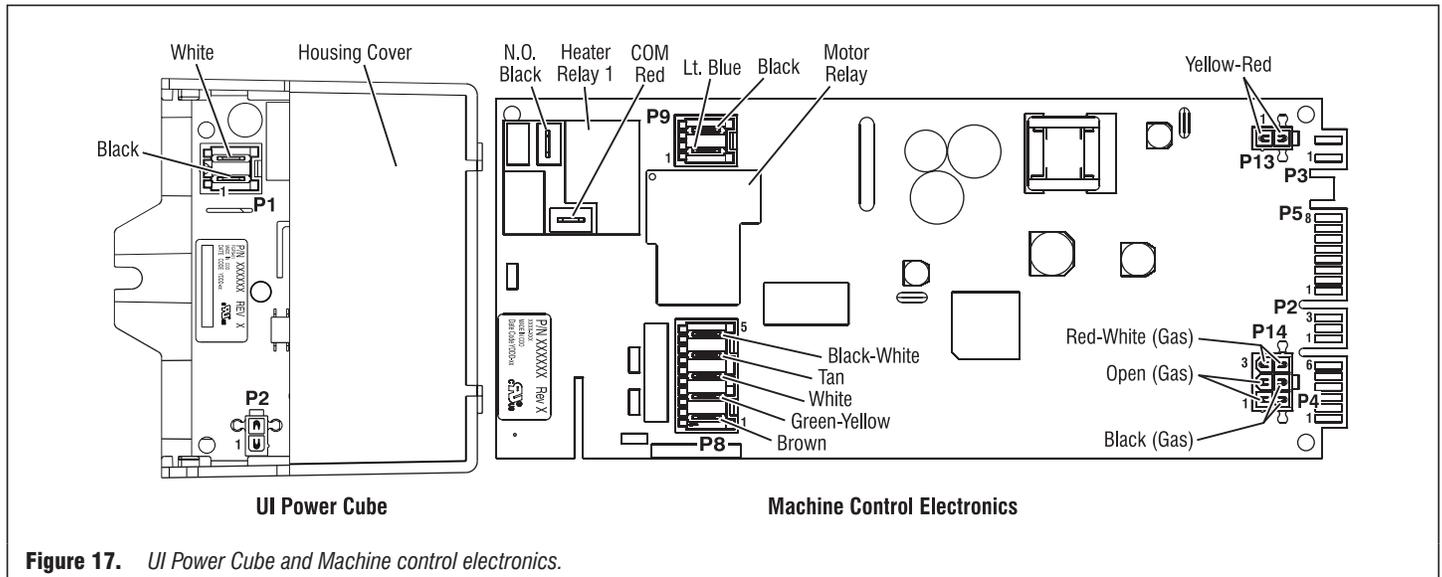

Figure 17. UI Power Cube and Machine control electronics.
2. Check to make sure the connector is fully inserted in the power cube board at P1. See figure 17, page 10.
3. Using an ohmmeter and referring to the appropriate wiring diagram, page 12; and figure 17, check to be sure there is continuity between P2-1 on the power cube board and P003-3 on the console electronics user interface board.
3. Remove all the wire connections to the machine control electronics. See figure 17.
2. Remove all wire connections to the UI power cube. See figure 17.